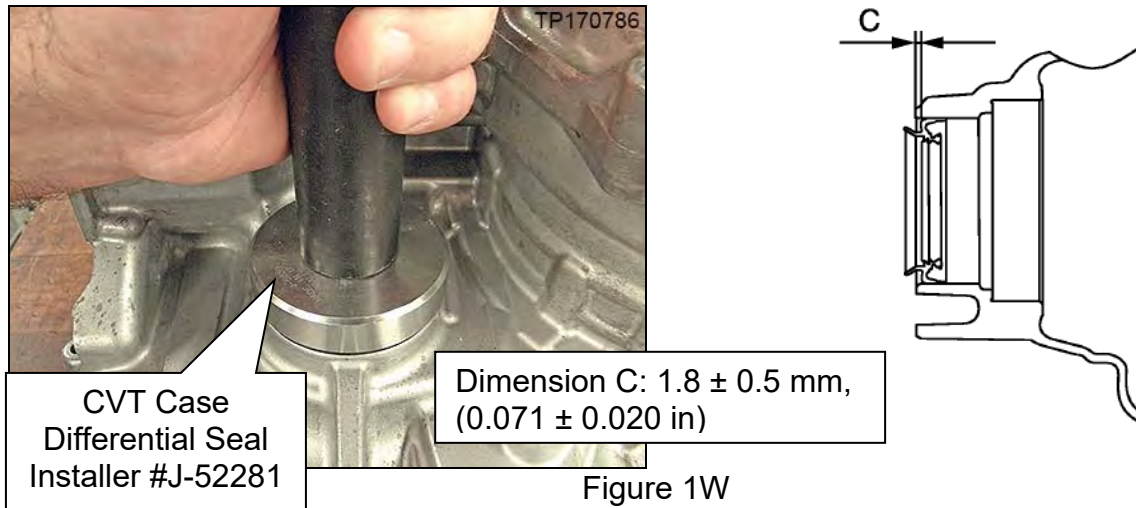

Figure 1W
1. Install the differential side oil seal to the CVT case (Figure 1W).
- Drive the differential side oil seal in until the amount of oil seal protrusion from the CVT case edge matches dimension C shown in Figure 1W.